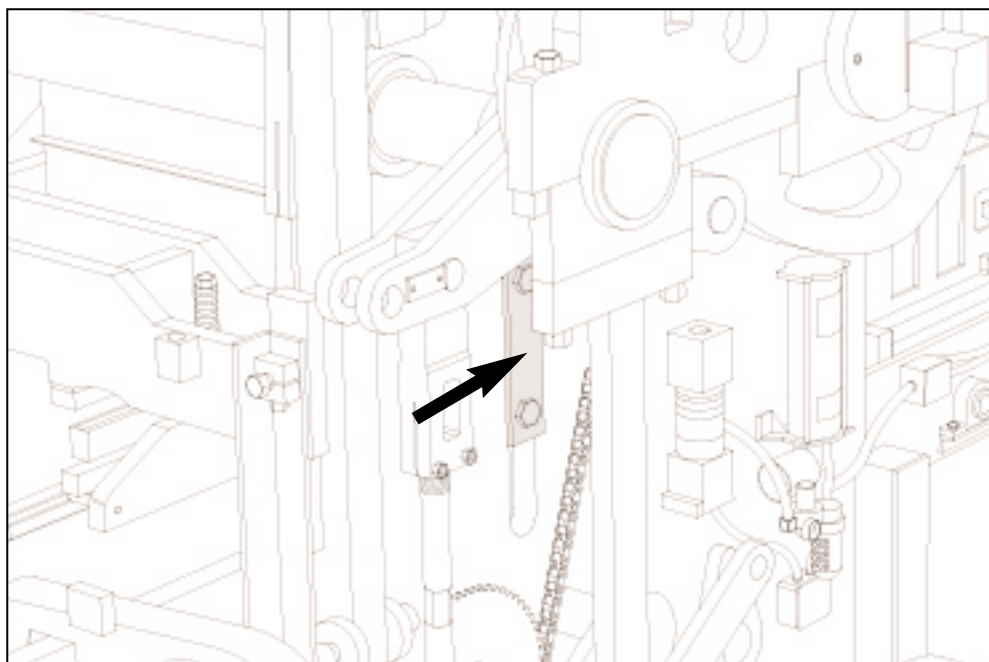

Figure 4.10 TIGHTEN "T" CLAMPS ON BOTH SIDES.
- f. Tighten "T" clamps on each side of machine that secures machine side plate to mold throat plate. See figure 4.10 below.